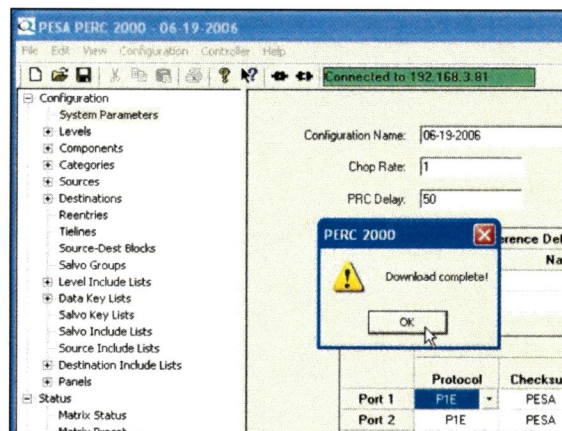

Figure 52. Download Complete Notification
- ☐ 9. Once the configuration file is downloaded to the P2K controller, the dialog box shown in Figure 52 will appear. Click **OK** to clear the box.